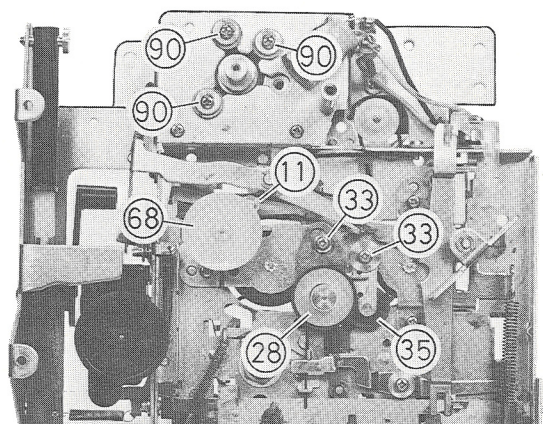

Fig. 23
#### I. FF Arm Ass'y (28) (Refer to Fig. 23)
#### J. Idler Ass'y (35) (Refer to Fig. 23)
#### K. Take-up Lever Ass'y (68) (Refer to Fig. 23)